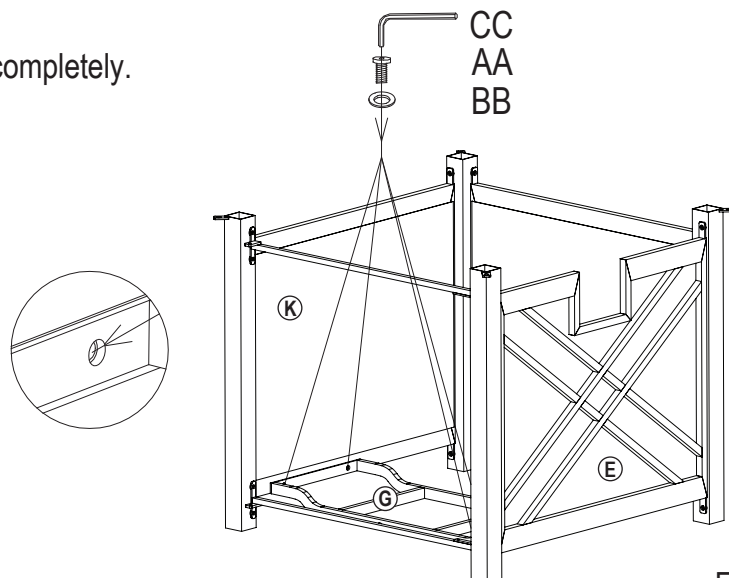

Figure 6
6. Attach gas cylinder support (G) to right panel (E) and left panel (K) with bolt (AA) and washer (BB) using hex screw driver (CC), (see Figure 6).